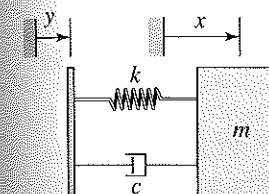

Figure P5.40
- 5.40 Suppose the spring in Figure P5.40 is nonlinear and is described by the cubic force-displacement relation. The equation of motion is